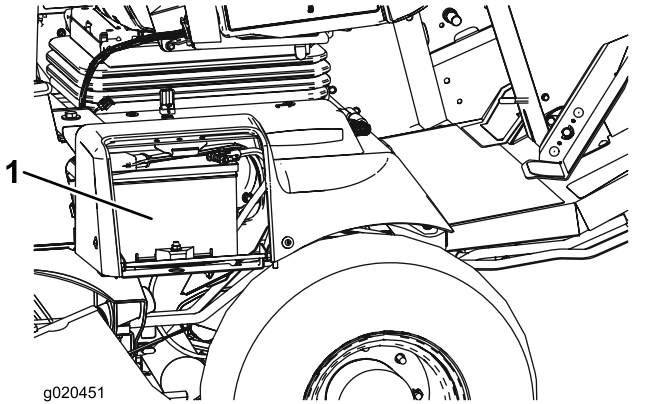

Figure 61
1. Connect the positive battery cable to the positive battery post (Figure 61), and slip the rubber boot over the terminal.